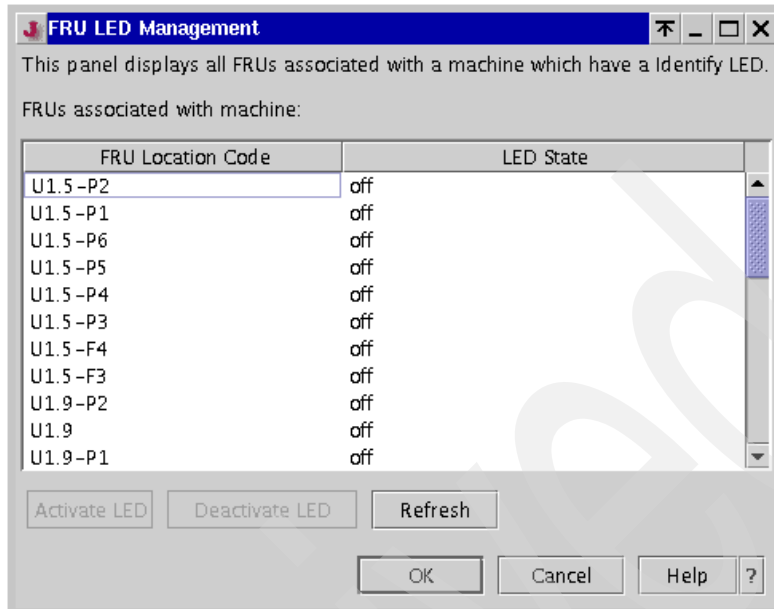

Figure 11-20 FRU LED Management
4. You will see the FRU LED Management window (Figure 11-20 on page 270).